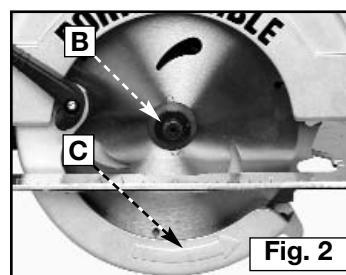

Fig. 2
2. Hold the blade lock engaged and use the provided wrench to loosen the blade retaining bolt (B) Fig. 2. Rotate it counter-clockwise.
2. Clean the inner blade flange and retract the telescoping guard. Place the new blade on the arbor. Make sure that the teeth point up at front of saw (Fig. 2). Follow the direction of the arrow on the telescoping guard (C).
The telescoping guard (C) Fig. 2 is a safety device important to your protection. Every time you use the saw, verify that the telescoping guard rotates freely and returns quickly and completely to its closed position. At least once a month, remove any accumulated debris (sawdust, pitch, etc.) from the area around the hub (B) of the telescoping guard. **DO NOT LUBRICATE THIS AREA.** The hub has a dry film lubricated surface that does not need oiling. **DO NOT** block or wedge the telescoping guard in the open position.